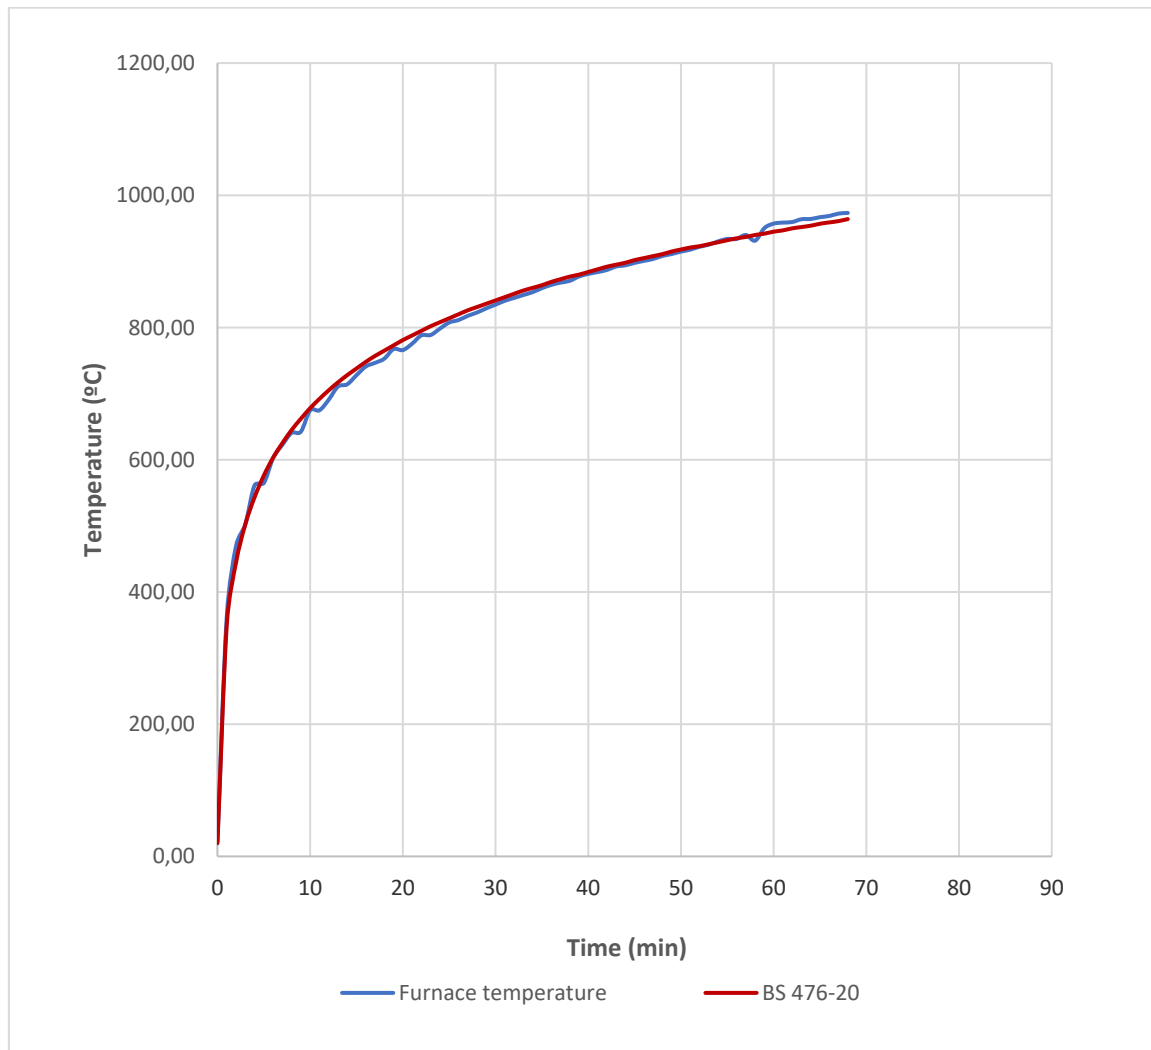

FIGURE 3
- 6.1 Figure 3 shows the time/temperature curve of the furnace for this test and the standard curve stated in the Standard BS 476-20:1987.